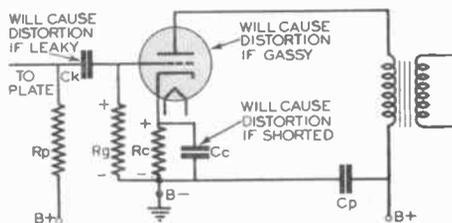

FIG. 1. Typical audio amplifier stage; several different defects in it which can cause distortion are indicated.
Suppose that you are dealing with an audio amplifier circuit like that shown in Fig. 1; in this circuit the flow of plate current through resistor  $R_c$  produces a voltage drop which is applied to the grid through  $R_g$  to serve as the normal C bias. If condenser  $C_c$  becomes totally conductive, it will short out the voltage across  $R_c$  and thereby bring the C bias to zero, causing distortion on high-level signals.
Leakage in coupling condenser  $C_k$  may also cause distortion. Under this condition, the D.C. plate voltage on the preceding tube will send direct current through  $C_k$  and  $R_g$  to ground, making the grid end of  $R_g$  positive with respect to the chassis as indicated in Fig. 1. This positive voltage offsets the normal negative C bias on the grid, causing the tube to operate with a positive grid bias. As a result, grid current will flow and distortion will occur. A gassy tube will also allow grid current to flow, causing distortion. Once a circuit analysis like this is made, simple tests of the suspected parts should reveal the defect.
**Defective Stage Isolation.** You can readily see that the defects discussed in connection with Figs. 1 and 2 could exist in any one of a number of different stages in a radio receiver. It is highly desirable that the defect be isolated to a particular stage; unfor-